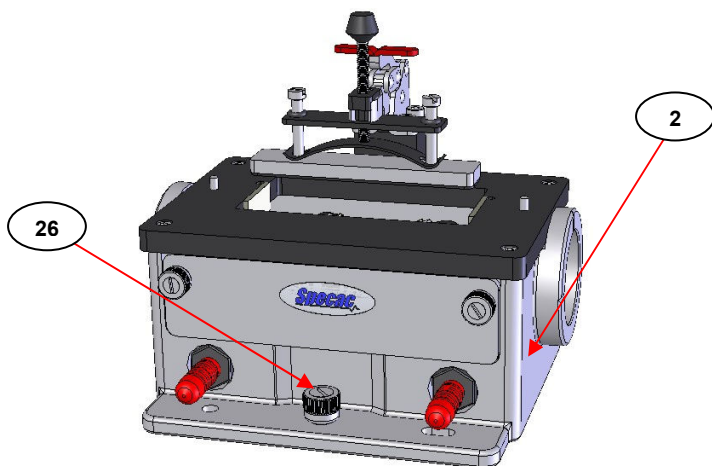

Fig 11. Fixing Thumbscrew of the Gateway™ ATR Optical Unit for Attachment to the Benchmark™ Baseplate
The Gateway™ ATR Accessory is base plate mounted. The Gateway™ optical unit (2) fixes to the Benchmark™ baseplate via a central fixing thumbscrew (26). (See Fig 11.) Usually, a spectrometer's own 3" x 2" slide plate sample mount will have to be removed before the Gateway™ ATR Accessory can be installed on the Benchmark™ baseplate.